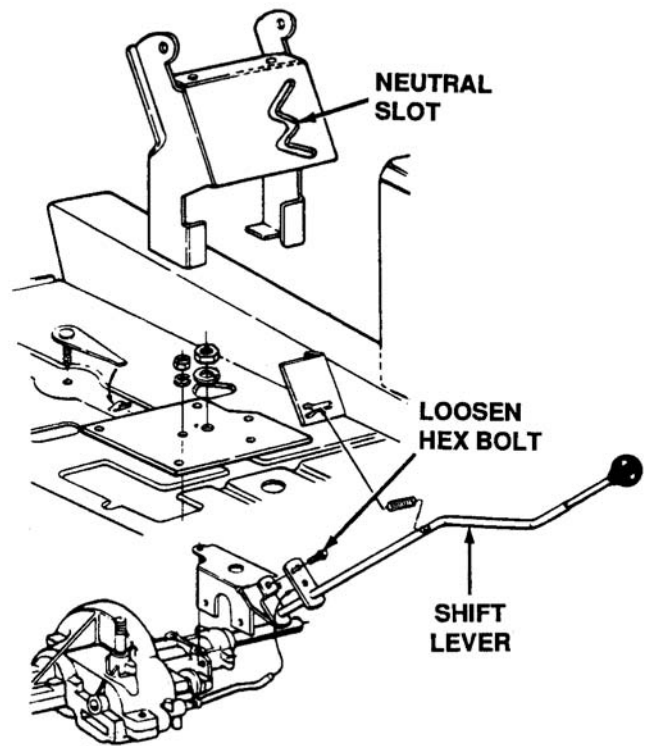

Figure 7-11. Shift Lever Assembly
2. Loosen the bolt which secures the shift lever assembly to the shift lever adjusting link. See Figure 7-11.